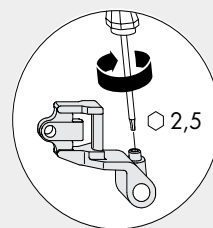

Figure 2
- B** Top hinge pin (8/14) must be secured in the stay hinge (10/15) (see Figure 2).